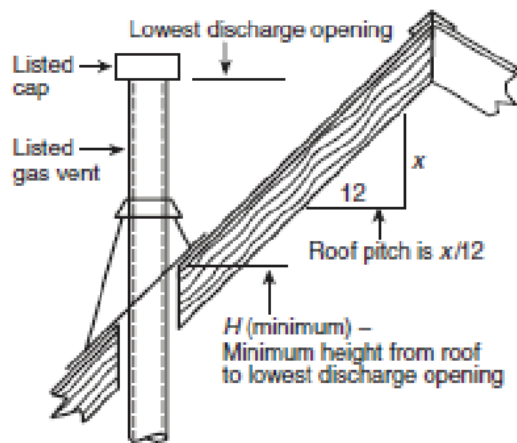

Figure 12. Roof Slope and Pitch
- a. For double-wall vent pipe and a horizontal distance to any vertical wall or similar obstruction of 8 feet or greater, the vent must terminate above the roof in accordance with Figure 12 and Table 11.
\*See Figure 12. Termination locations for gas vents with listed caps 12 inches (300 mm) or less in size at least 8 inches (2.4 meters) from a vertical wall.